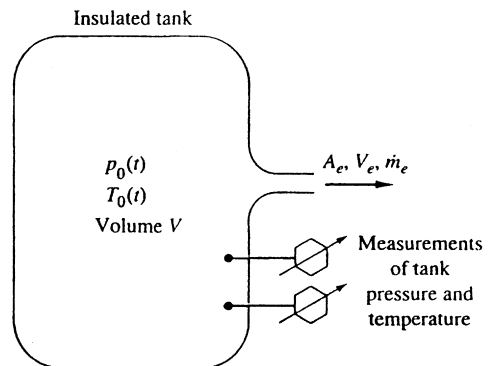

Fig. P9.37
**9.37** Make an exact control volume analysis of the blowdown process in Fig. P9.37, assuming an insulated tank with negligible kinetic and potential energy. Assume critical flow at the exit and show that both  $p_o$  and  $T_o$  decrease during blowdown. Set up first-order differential equations for  $p_o(t)$  and  $T_o(t)$  and reduce and solve as far as you can.